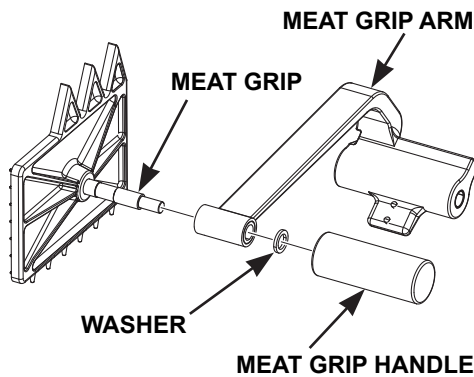

Fig. 25
- Assemble the Meat Grip Assembly (Fig. 25) by placing the Washer, Meat Grip Arm, and Meat Grip Handle on the shaft of the Meat Grip.